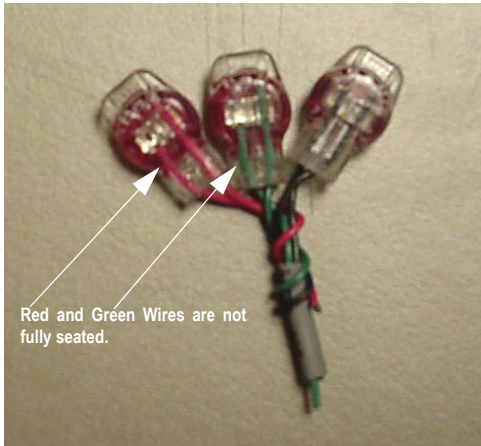

Figure 39 Improper Connections
- 6 Check to ensure the wires are still fully seated in the connector before crimping the connector. Figure 39 illustrates improper connections due to wires not fully seated.